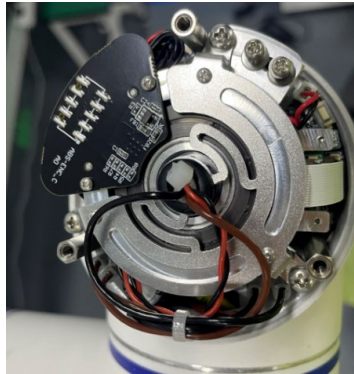

Figure 3-16 Reconnect the wires
- Reconnect the wires and tie them as shown in Figure 3-16:
- Reconnect the wires and tie them as shown in Figure 3-16;